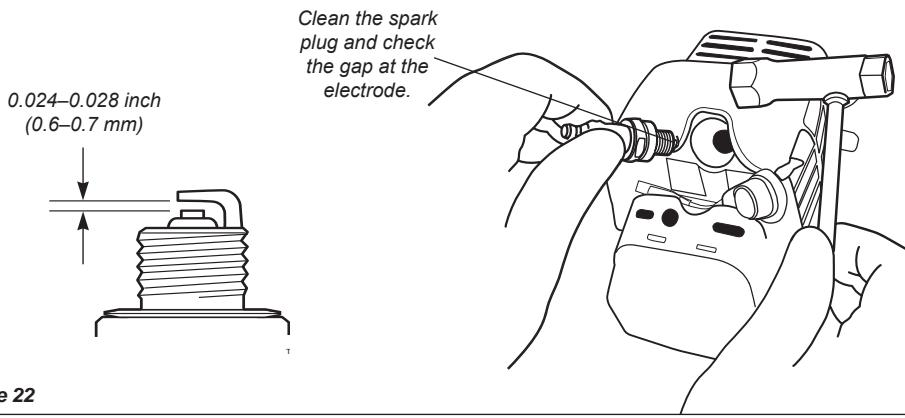

Figure 22
- Remove and clean the spark plug. Adjust the spark plug electrode gap to 0.024–0.028 inch (0.6–0.7 mm). If the spark plug must be replaced, use only an BPMR6A or equivalent resistor type spark plug of the correct heat range. See Figure 22.